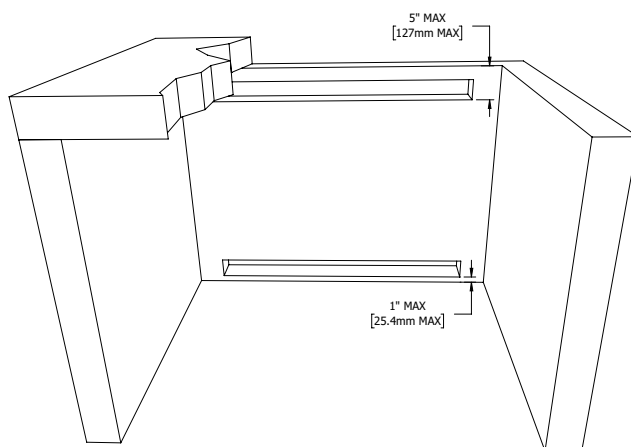

Fig. 2. Example of ventilation requirement in the enclosure rear.
- At least one (1) unobstructed ventilation opening on the exposed exterior side of the enclosure within 5" (127 mm) of the top of the enclosure. The opening(s) must equal at least 60 in² (387 cm²).
- At least one (1) ventilation opening on the exposed exterior side of the enclosure 1" (25.4 mm) or less from the floor level. The opening(s) must equal at least 60 in² (387 cm²). The opening's upper edge shall be no more than 5" (127 mm) above floor level.
- If you cannot vent the enclosure's exposed exterior side, you can vent the enclosure rear (see previously mentioned specifications) or leave the enclosure rear open. **See fig. 2.**